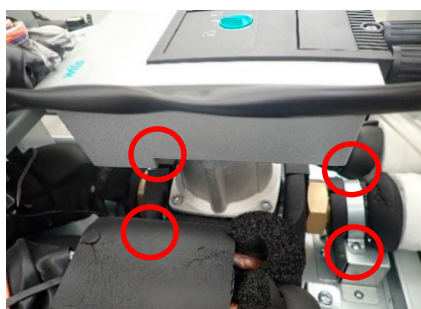

Fig8. Removing clamps
- (c) Remove 4 screws and 2 clamps.(○ mark, Fig.8)